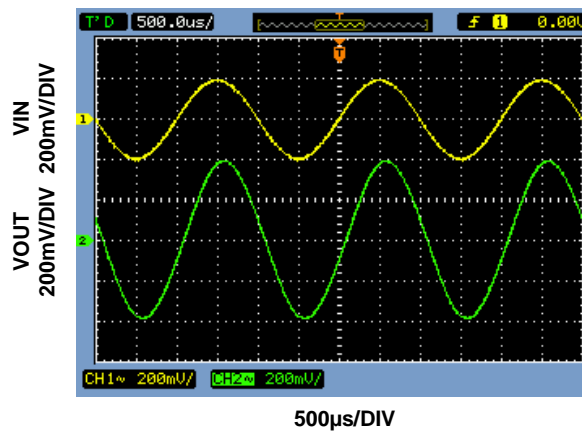

Figure 5. TS1002 and TS1004 Non-Inverting Configuration Input and Output signals
- 9) Observe the input and output signal. The output signal is an amplified version of the input signal with an output swing of approximately $800mV_{PP}$, corresponding to a signal gain of two. Figure 5 shows what the input and output signal should look like. The input signal is in yellow and the output signal is in green.